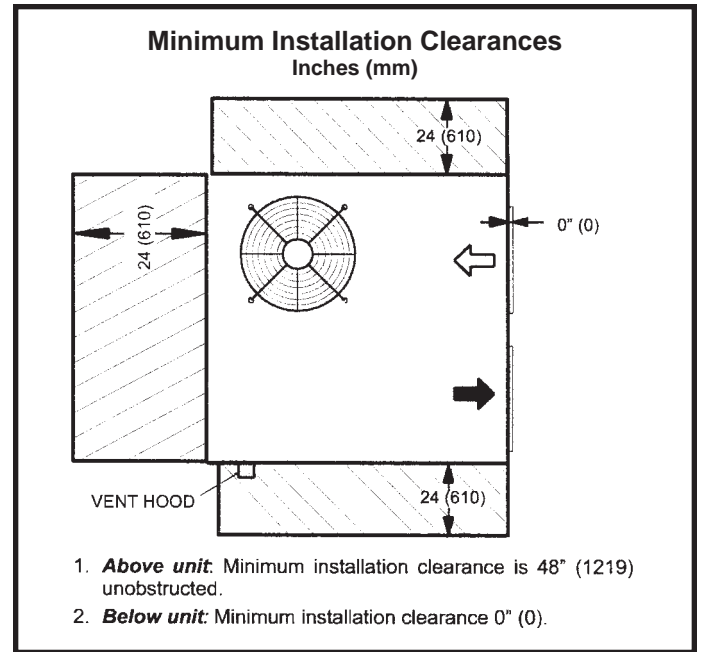

Figure 2
- Refer to Figure 2 standard installation clearances for servicing, and proper unit operation.